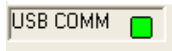

FIGURE 16.
- USB Communication** - Check to make sure the light shown in Figure 16 is green. If it is not green, check your connection.